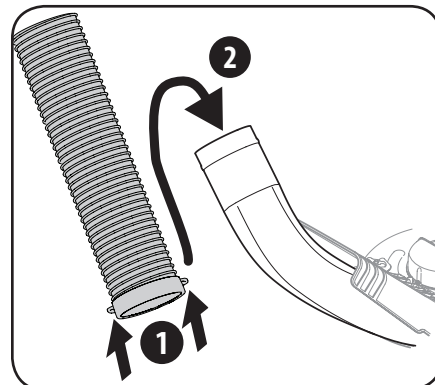

Figure 4-16
2. Lift by the handles at the bottom of the chute tube. Slide the chute tube over the chute elbow mounted on the cutting deck, as shown in Figure 4-16.